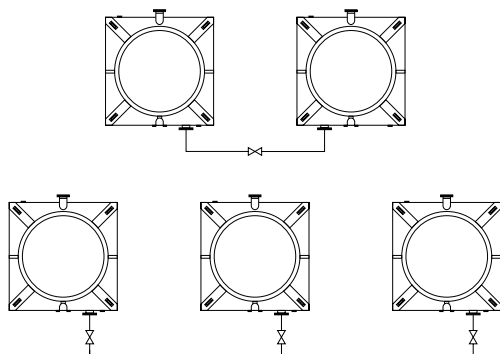

Figure A-131: Equalizer Line Installation
- Install an equalizer line between towers, to maintain the same water level at the basins (see Figure A-131). Table A-2 shows the recommended sizes for the Equalizer connections.